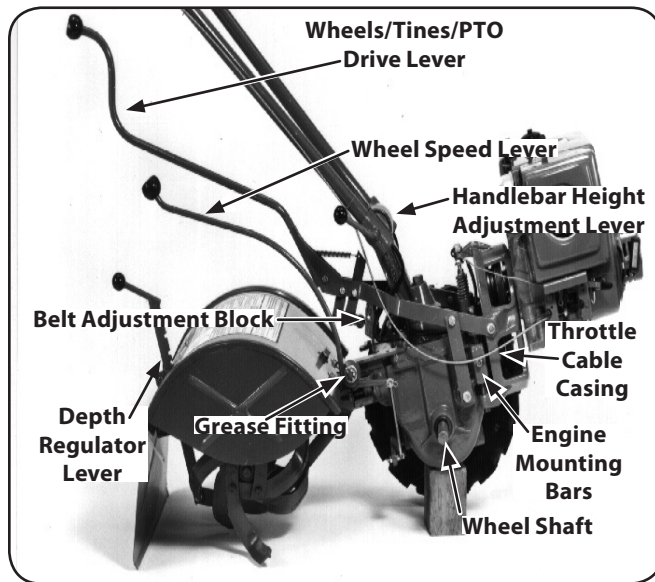

Figure 6-10
1. Oil the wheel shaft between the wheel hubs and the transmission housing. See Figure 6-10.
2. Oil all pivoting and connecting points on the Wheels/Tines/PTO Drive Lever and the Wheel Speed Lever. See Figure 6-10.
3. Grease the face of the belt adjustment block. See Figure 6-10.
4. Oil the Depth Regulator Lever, including the spring in the mounting bracket. See Figure 6-10.
5. Oil the full length of the throttle cable casing. Oil threads on Handlebar Height Adjustment Lever. See Figure 6-10.
6. Grease the left- and right-side engine mounting bars at the top, middle and bottom. See Figure 6-10.
7. Grease the zerk grease fitting located on the pivot point at the end of the Wheel Speed Lever. See Figure 6-10. If the Wheel Speed Lever has a grease fitting on the pivot assembly, apply 2-to-3 strokes of multipurpose grease at beginning and end of tilling season.